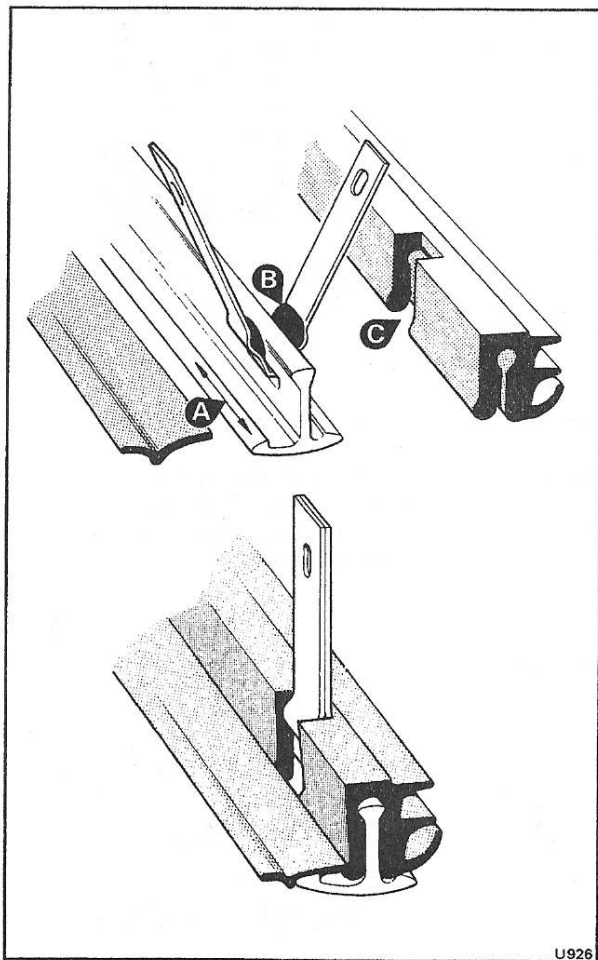

Fig. S146 Fitting the finisher/seals assembly (Camargue)
14. Lightly roughen the bonding surface of the chrome finisher with abrasive paper (see Fig. S146, item A) then, thoroughly wipe the bonding area with Genklene.
20. Fit the four retention plates through the slots in the chrome finisher, then apply Arbomast Autograde Sealant or Seelastik inside the legs of the retention plates (see Fig. S146, item B).
22. Carefully cut a section from the inside edge of the seal for the retention plates to pass through (see Fig. S146, item C). Close the legs of the plates then fit the moulded rubber seal over them and onto the chrome finisher (see Fig. S146).